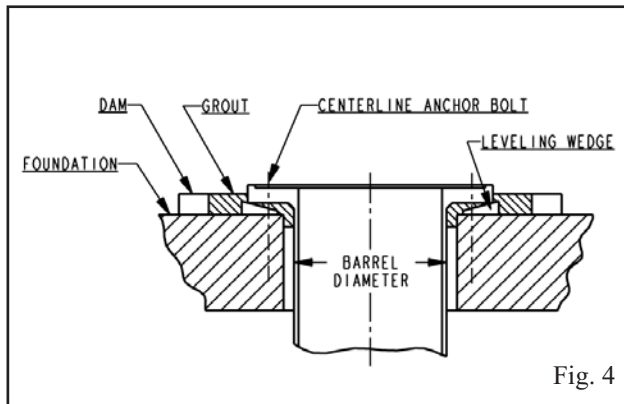

Fig. 4
- A. Leveling wedges. This is shown in Fig. 4.